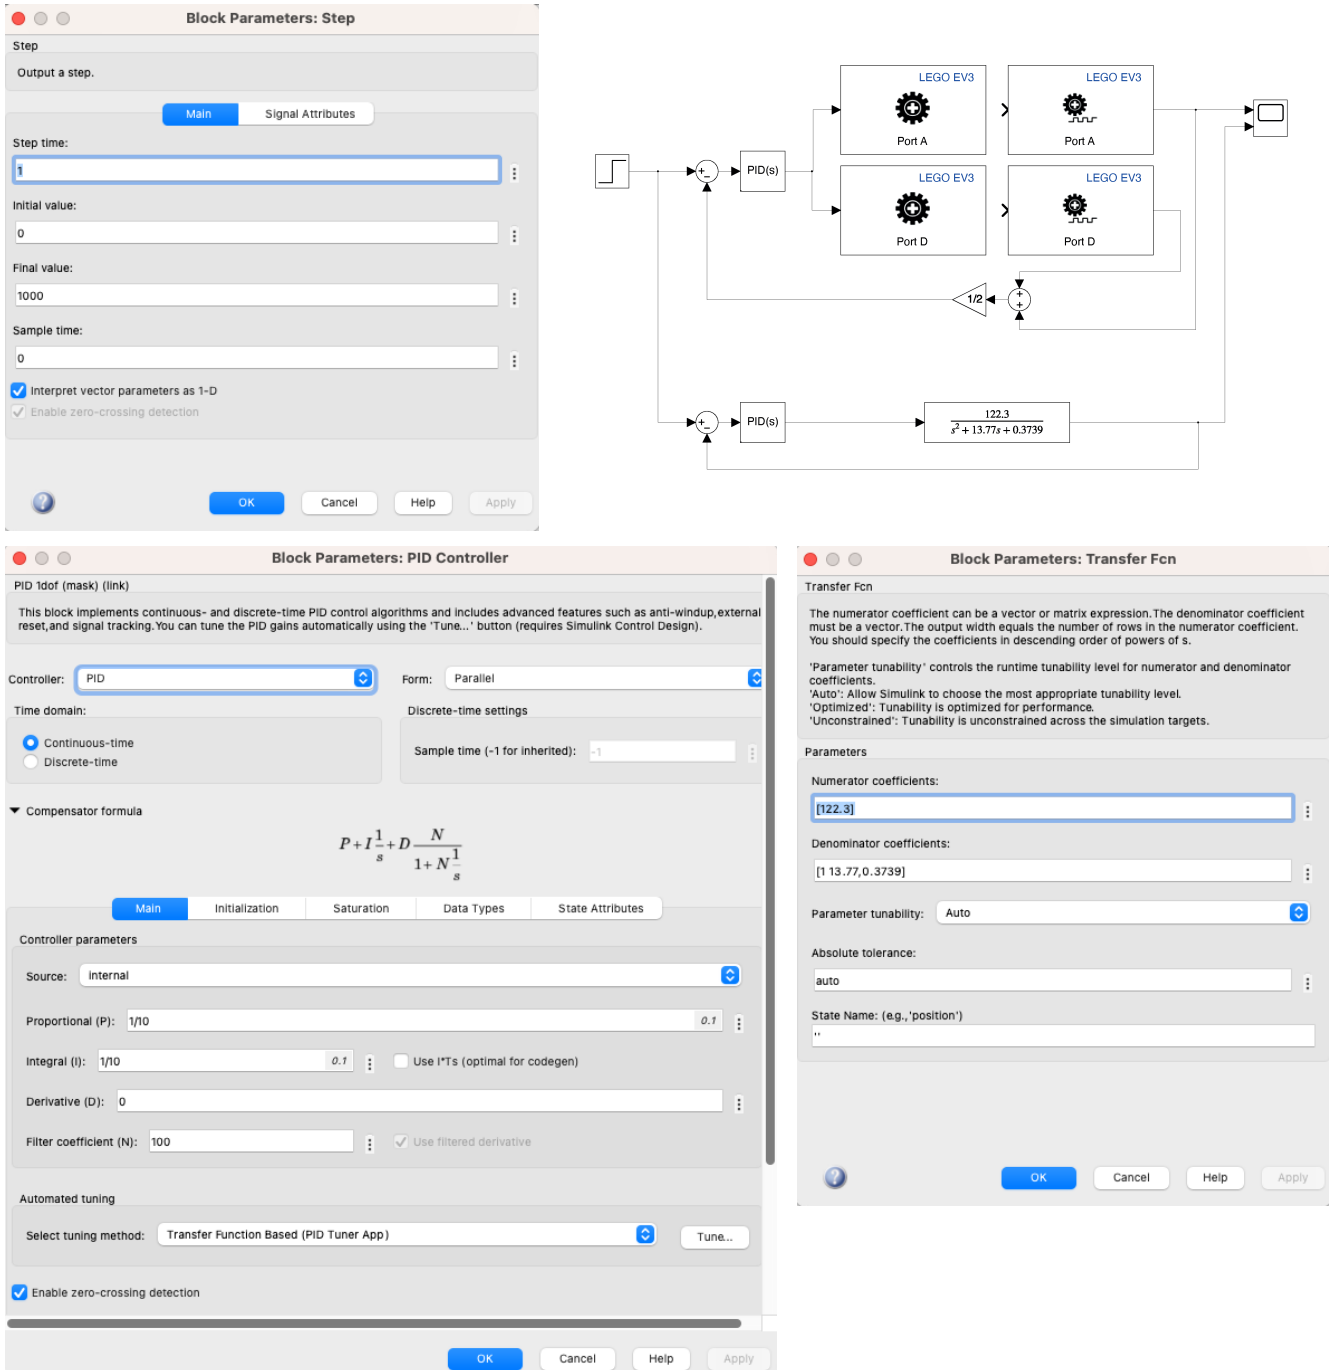

Figure 3: Model Validation
To test the accuracy of the model, we control the system in simulation and in reality using a PID controller to do setpoint tracking. Build the simulink model depicted in Fig. 3. Here are some considerations:
- Select the parameters of the step block, PID blocks as depicted in Fig. 3.